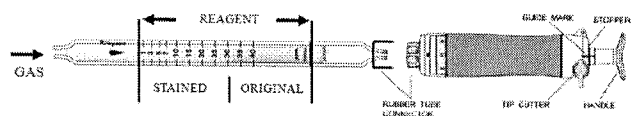

Fig.1
- ② Insert the detector tube into the aspirating pump securely as shown in Fig.1. (Arrow mark shall point to the pump.)
- ③ Align the guide marks on the shaft and stopper of the aspirating pump.
- ④ Pull the pump handle at a full stroke until it locks and wait for 3 minutes or until the completion of sampling is confirmed with the flow indicator of the pump. (See descriptions about the flow indicator in the instruction manual of the pump.)
- ⑤ On completion of sampling, read the scale at the maximum point of the stained layer.
- ⑥ When the concentration is over the upper limit of the scale range, the following procedure for a 1/2 pump stroke can be used.
- ⑦ When the concentration is below the lower limit of the scale range, the following procedure for 4 pump strokes can be used.